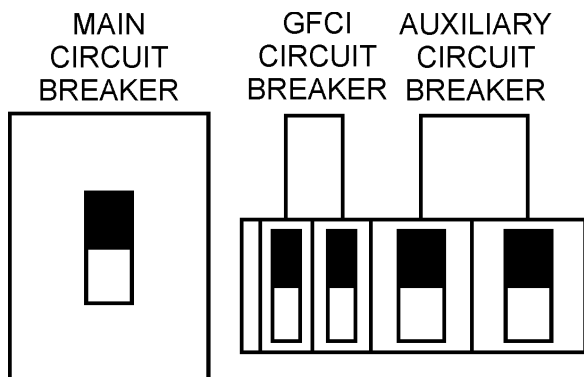

Figure 51. Main, AUX. and GFCI Circuit Breakers (ON)
16. Turn the **main**, **GFCI**, and **aux.** circuit breakers to the “**ON**” position (Figure 51).